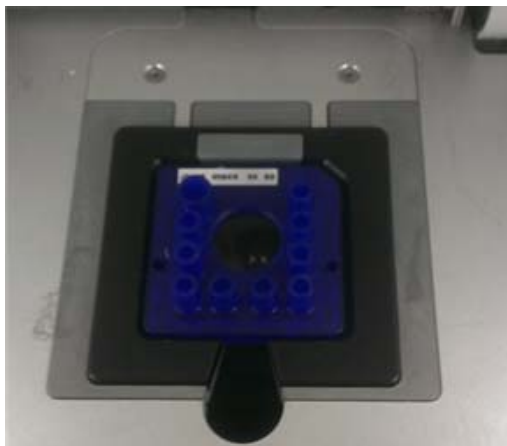

Figure 9. Chip in the LabChip GX Touch/GXII Touch Instrument
- 6 Place the chip on the chip heater block in the LabChip GX Touch/GXII Touch instrument (Figure 9) and close the chip door securely.